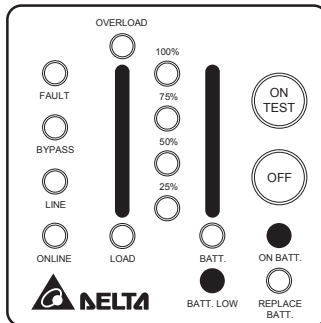

Fig 4-7 Battery Low
- BATTERY LOW:** This function is to inform user the remaining power capacity of the batteries. When batteries reach a low level condition, the UPS alarm will beep half second every 1.5 seconds until running out of battery capacity. Shown as fig 4-7.